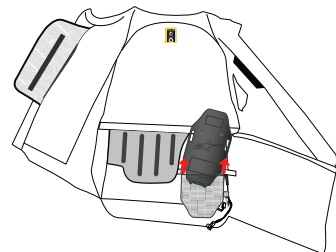

Figure 13
3. Remove the Inflater Housing (4) from its pocket by opening the two fastening hook-and-loop patches (Figure 13).
**WARNING! The removal of the inflator housing doesn't require that it be opened. Do not open the Inflater Housing (4). Only authorized Alpinestars Dealers may open the Inflater Housing (4) for servicing purposes.**